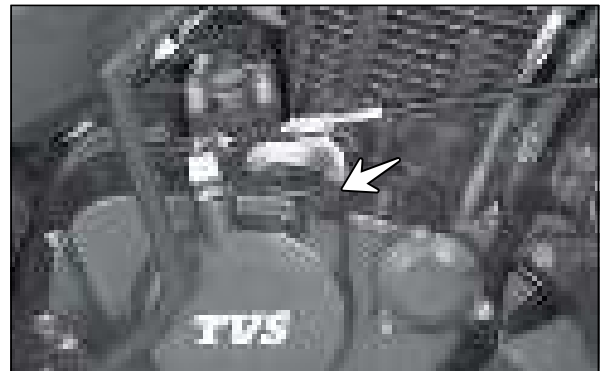

Fig. 2.31
- Remove the gauge oil level to facilitate easy draining of oil. (Fig. 2.31)